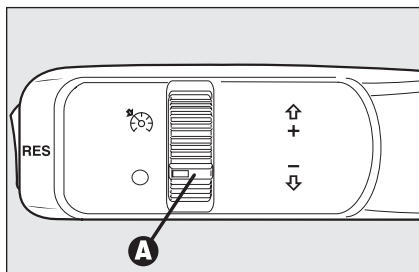

fig. 50
Turn knurled ring **A-fig. 50** to .
- turn the knurled ring **A-fig. 50** to  and press the accelerator pedal to the required speed;
- turning the knurled ring **A**-fig. 50 to **O**;
*In the event of device malfunction or failure, turn the knurled ring A-fig. 50 to O and contact Alfa Romeo Authorized Services after checking the protection fuse integrity.*